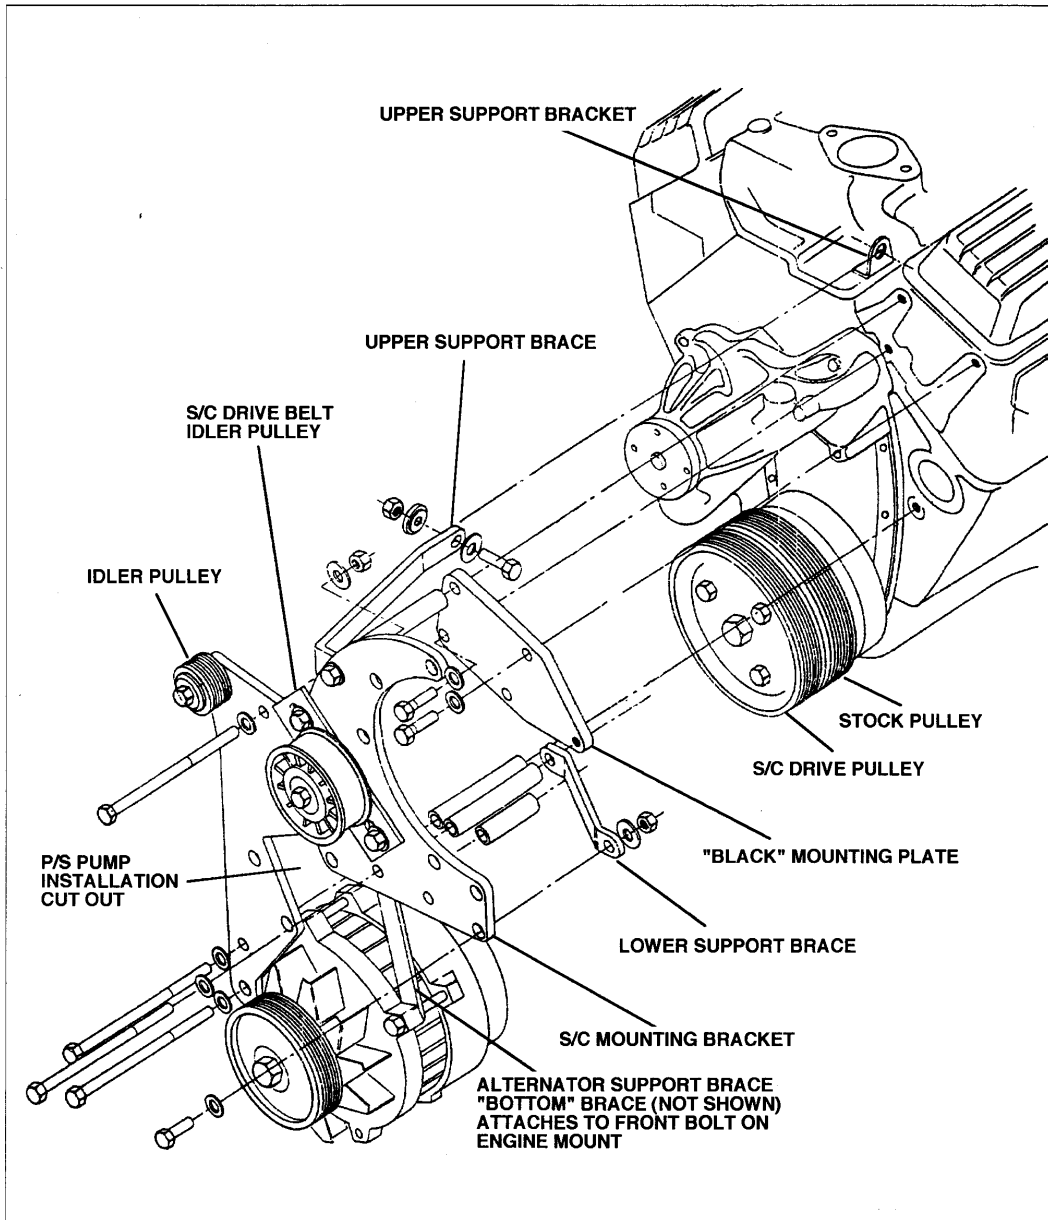

Fig. 4-2 / Exploded view of S/C mounting bracket and mounting location
**HINT:** You will want to refer to FIGURE 4-2 throughout the mounting bracket installation